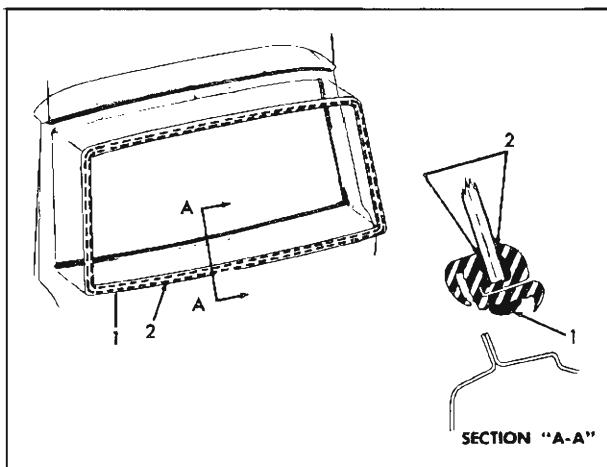

Fig. 14-20 Back Door Window Sealing
4. Apply a continuous ribbon of medium-bodied sealer (Approximately $\frac{1}{4}$ " thick) to base of rubber channel, (1 in Section "A-A", Fig. 14-20), completely around rubber channel.
7. Using a pressure type applicator, apply weatherstrip adhesive (black) between rubber channel and glass on inside and outside of glass, (2 in Fig. 14-20) completely around glass and rubber channel. Application of adhesive should be continuous with no skips.